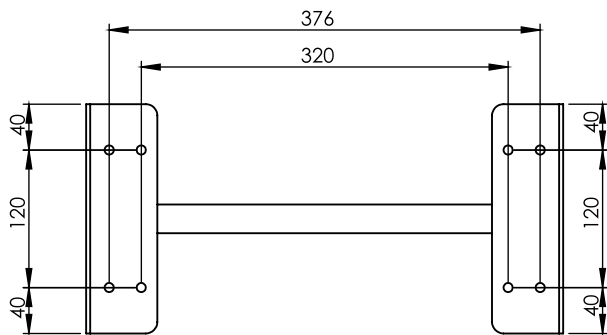

Fig. 5.3 Mounting Bracket for Garuda
1. Connect the mounting plate strip to the mounting brackets and then mark the Positions of the Drill Holes of the wall mount bracket. The mounting position should be marked as shown in Figure 5.3.